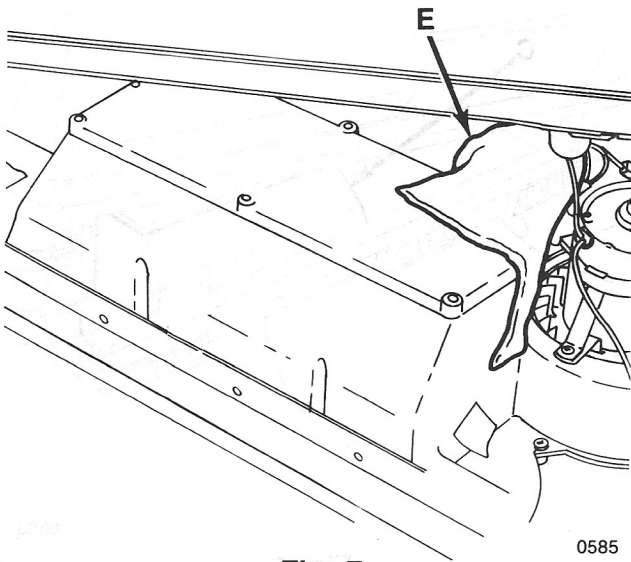

Fig. 7
4. Remove the insulation material (E) (Fig. 7).